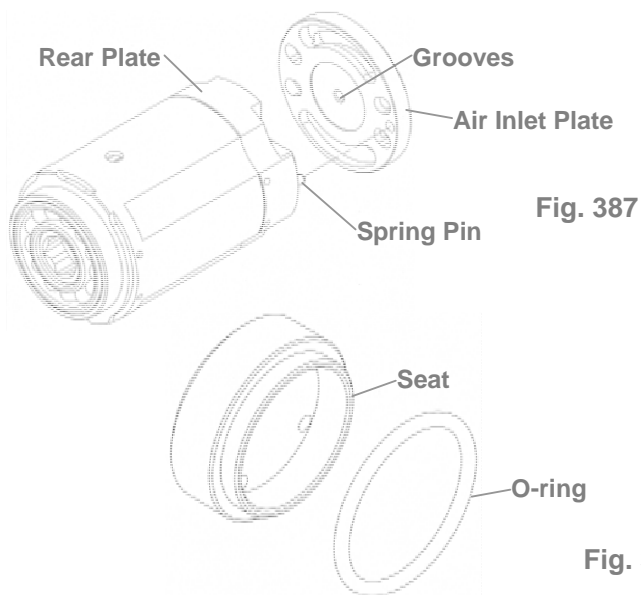

Fig. 387
- ❷ Make the groove of the air inlet plate toward the rear end plate and assemble. Make sure the holes aim at the pin while assembling, Fig. 387.
- ❸ Assemble the regulator with the rotor- air inlet unit. Make sure the steel balls of the regulator are placed on the holes of the air inlet plate. Then, place the seat with the o-ring sleeved on the regulator. Assembly is completed.